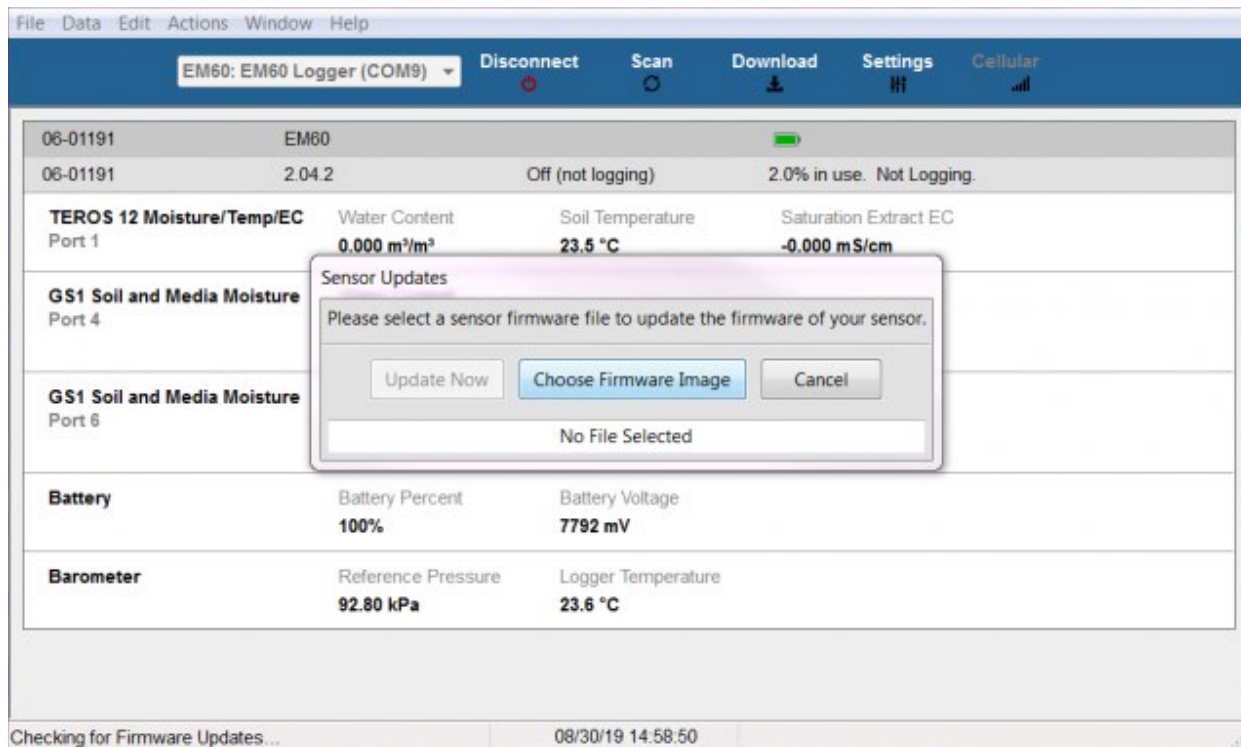

Fig 1. Choose FW image and direct ZENTRA Utility to where your FW image file is saved
**NOTE: ZL6 FW versions 2.07 or less have a bug that will declare success in FW updates yet may in fact be unsuccessful. You can find the FW version of your logger below the logger model. See Fig 1. Always double check the FW version of your sensor after the update.. The FW version is listed beneath the sensor type. If your FW update failed, follow these instructions to successfully update your sensor FW.**
**NOTE: ZL6 FW versions 2.07 or less have a bug that will declare success in FW updates yet may in fact be unsuccessful. See Fig 1. Always double check the FW version of your sensor after the update. You can check the FW version of your sensor by going to Settings and select Sensor Configuration. The FW version is listed beneath the sensor type. If your FW update failed, follow these instructions to successfully update your sensor FW. You will need to use ZENTRA Utility on a laptop for those instructions.**